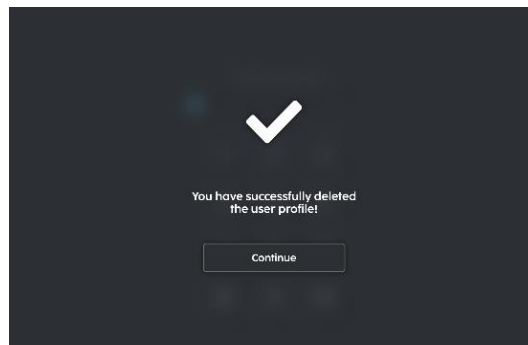

FIGURE 3-30
4. User has been successfully deleted (Fig. 3-30).